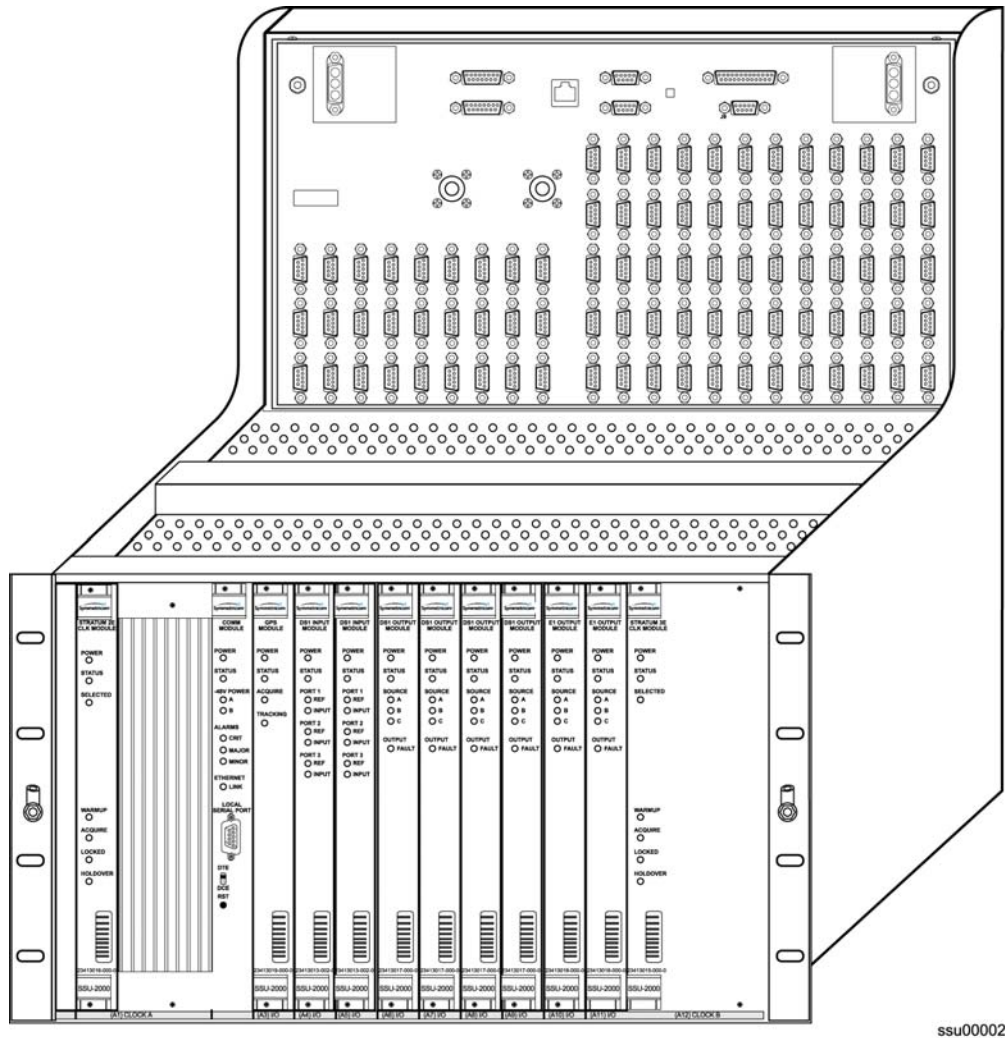

Figure 1-1. SSU-2000e Synchronization Supply Unit
The SSU-2000e Synchronization Supply Unit, shown in Figure 1-1, provides a Stratum 1 network synchronization solution for central office (CO), end office, customer premises equipment (CPE) sites, controlled equipment vaults (CEV) and telecommunications and data communications network operations. The SSU-2000e family of products consists of: